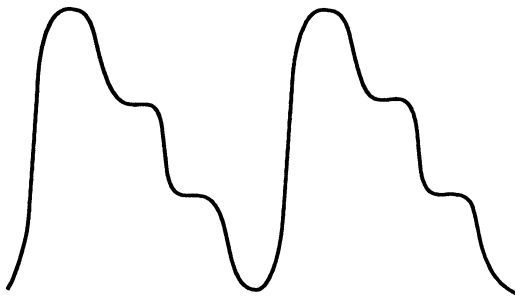

Figure 21. Non-inverting Receiver: Correct Polarity
Step 8. Compare your oscilloscope (the trace corresponding to demodulated audio) to Figures 21 through 24 and do one of the following:
- If it looks like Figure 21 the polarity is correct, continue with step 10.